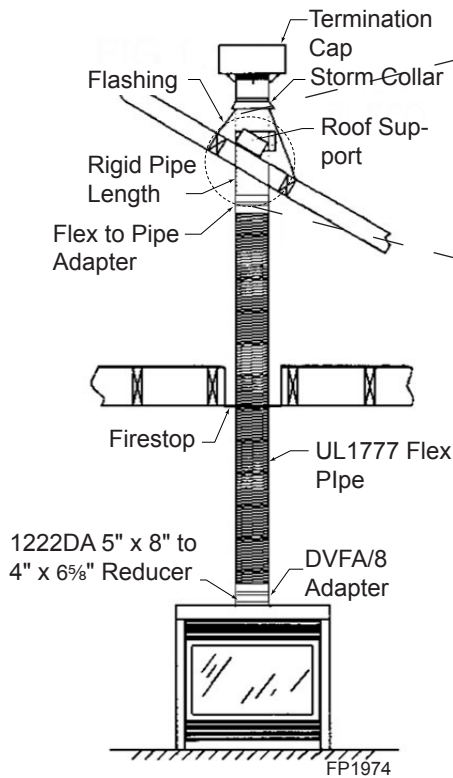

Figure 38 - Typical Vertical Flex Vent Installation
- A. Installing the inner flex adapter and pipe. *Figure 38*
2. Install firestop spacers, *Figure 38*, when penetrating ceiling, attic spaces, or walls.
4. Use only listed and approved terminations and accessories, installed per the installation instructions and *Figure 38*.
CAUTION A manual shutoff valve must be installed upstream of the appliance. Union tee and plugged 1/8" NPT pressure tapping point should be installed upstream of the appliance. See *Figure 38*.